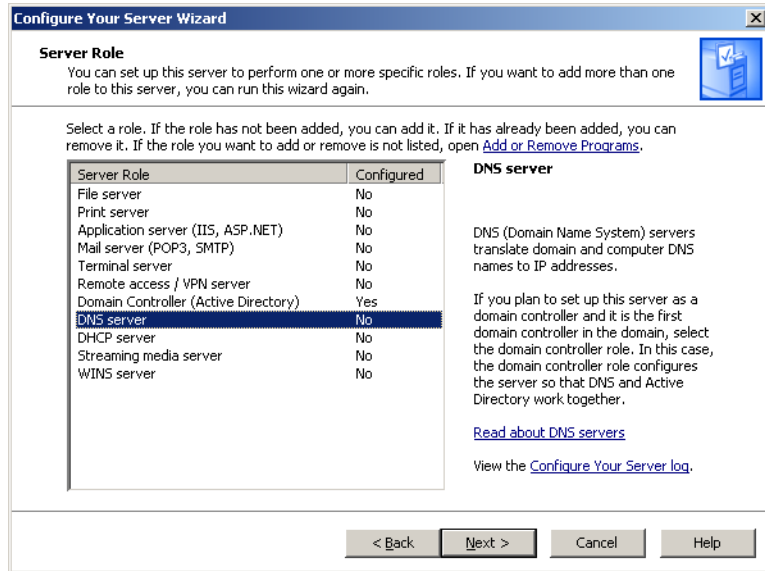

Figure D-44 DNS server role dialog
3. Highlight DNS server in the table shown in figure D-44 and then click **Next** button.